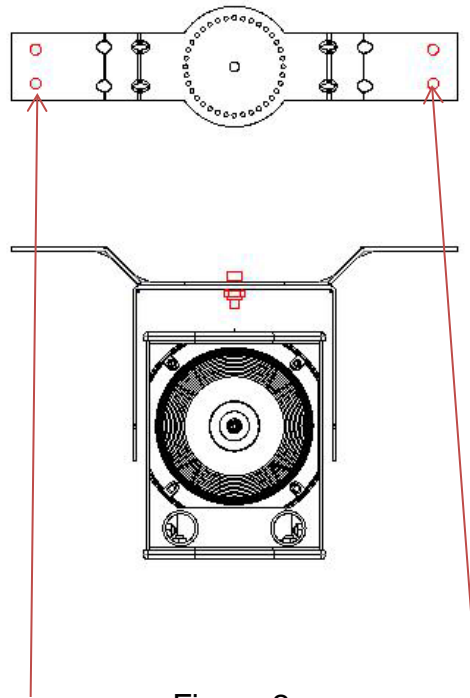

Figure 2
The ceiling bracket is mounted to a ceiling surface using the four (4) holes shown in red in Figure 2 (below)
Figure 2 (above) shows the four (4) mounting locations to join the ceiling bracket to a ceiling surface. These four mounting locations are designed to allow M10 diameter hardware. The ceiling bracket section should now be mounted to the ceiling surface.